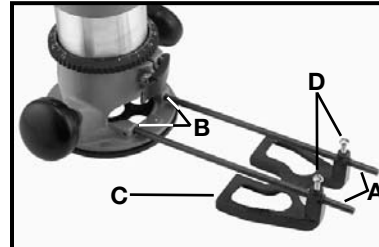

Fig. 7
To attach, insert the guide rods (A) Fig. 7 in holes in the base, and secure it with screws (B). Adjust the guide (C) on the rods and secure it in position with the thumb screws (D).